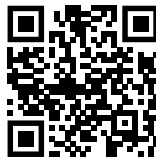

Fig. 128
- ▶ Отворете [Liebherr SmartMonitoring Dashboard](https://smartmonitoring.liebherr.com). (виж Fig. 128)